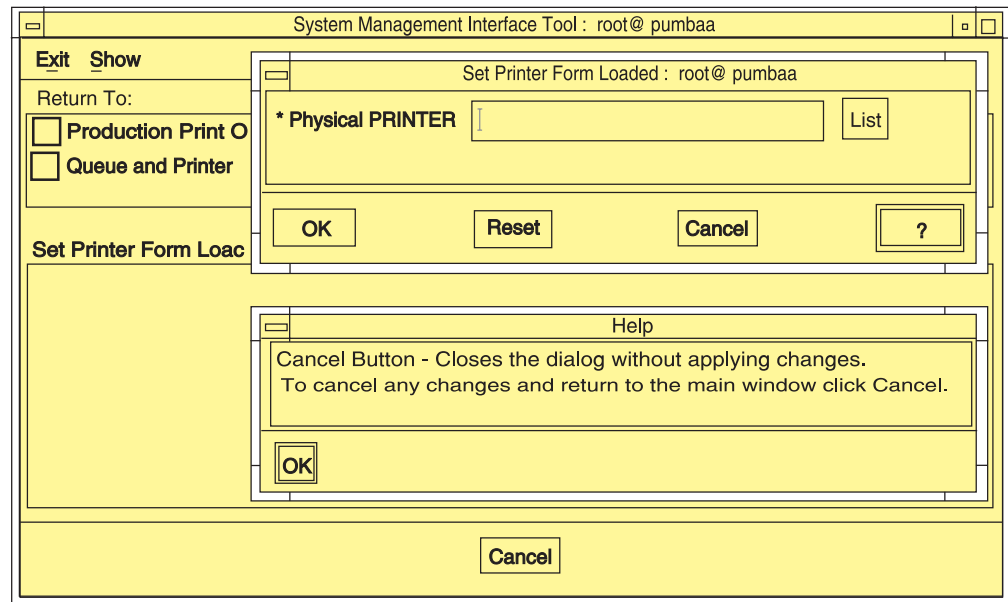

Figure 24. Help for SMIT Window Fields and Buttons
1. Select the button labeled with a question mark at the bottom right of the window. A **Help** window displays beneath the SMIT window. Figure 24 shows the results of selecting the question mark button.